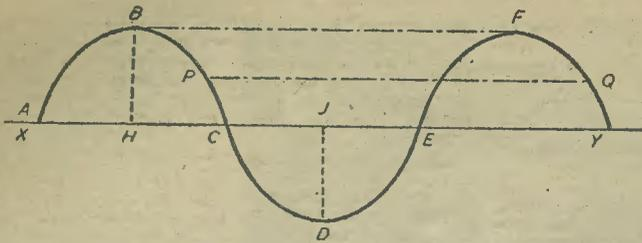

Fig. 1.—Amplitude H.B. is positive or JD negative. Wavelength BF or PQ. One complete cycle ABCDE.
- (1) Velocity, which is the speed with which energy is conveyed from one point to another by means of the wave motion.
- (2) Frequency, which is the number of waves passing a fixed point in a given interval of time, usually taken as one second.
- (3) Wavelength, which is the distance between one wave crest and the next.
- (4) Amplitude, the maximum displacement of a moving particle of the medium from its mean position, or very roughly the amount of medium in vibration. The reader is referred to Fig. 1 for a graphical representation.
Frequency is given in terms of cycles per second and one cycle of a wave is one complete set of varying conditions; the part above the mean line XY in Fig. 1 being termed positive half cycles and those below the negative half cycles.
for. Both of these points are illustrated in Fig. 1, which shows the circuit diagram of a typical Class B transmitter output stage. In this diagram the circuit of the driver stage is also included. This usually takes the form of two triodes, again in push-pull, but operating generally under Class A conditions. It is interesting to notice that the same two precautions are taken with the driver stage to ensure precise equality in the outputs of the two valves. The A.F. amplifier of most transmitters consists of pairs of valves operating in push-pull throughout, the valves becoming larger as one moves towards the output of the chain. All stages use Class A working, except the last, usually.
Fig. 1.—Circuit for control of magnitude of audio-frequency input to each valve by means of potential dividers, permitting differences of amplification factors. The two halves of the class B output stage are given independent grid bias supplies.